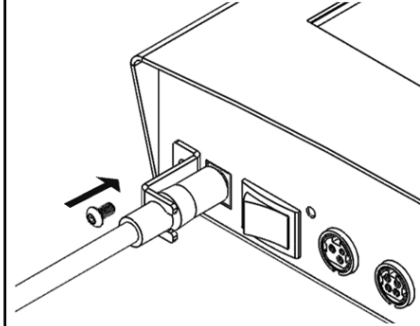

Figure 14
- Insert the male end of the power adapter cable supplied at the back of printer (refer to Figure 14).